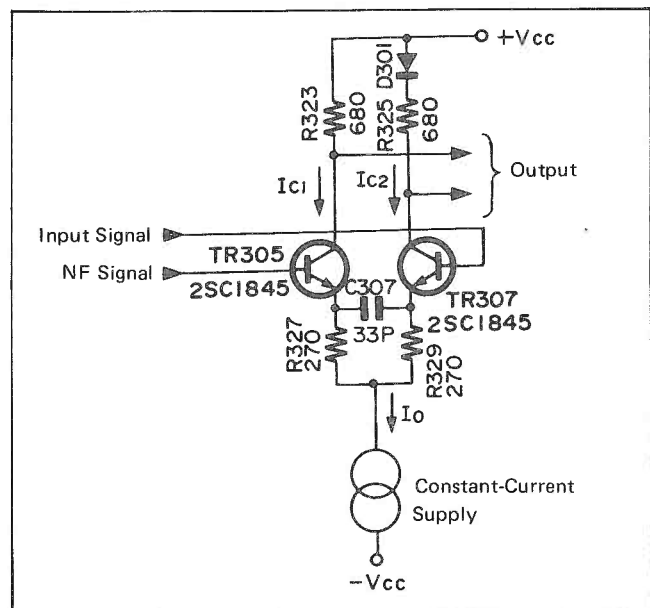

Fig. 17
2. Differential Input Type Equalizer Circuit (Fig. 17)